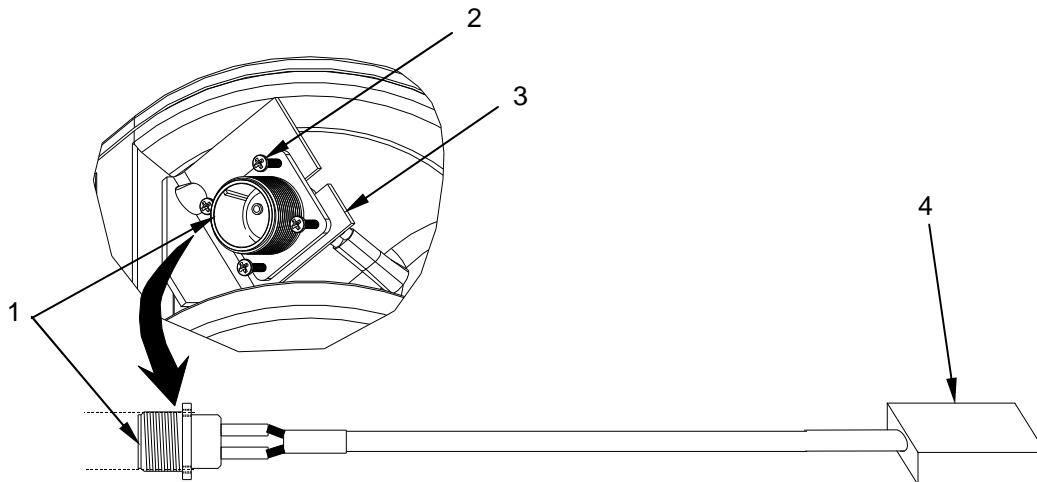

Figure 2. Replace the Electrical Connector Assembly.
1. Replace the connector assembly (Figure 2, Item 1) by removing the four screws (Figure 2, Item 2). Retain the screws for reassembly.
2. Slide the connector assembly (Figure 2, Item 1) from the bracket (Figure 2, Item 3).
3. Disconnect the plug (Figure 2, Item 4) at the end of the connector assembly from its interface connection and fully withdraw the cable.
4. Slide the serviceable connector assembly (Figure 2, Item 1) into place on the bracket (Figure 2, Item 3).
5. Connect the connector assembly plug (Figure 2, Item 4) to its interface connection.